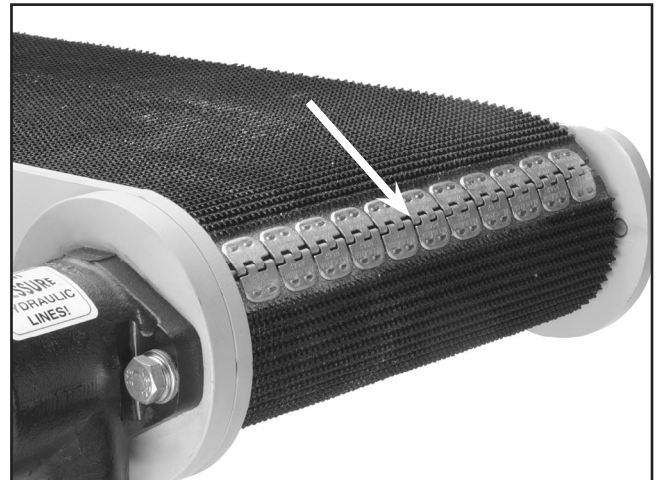

Figure 41. Conveyor belt seam.
2. Stop the conveyor belt when the conveyor belt seam (see **Figure 41**) is accessible.